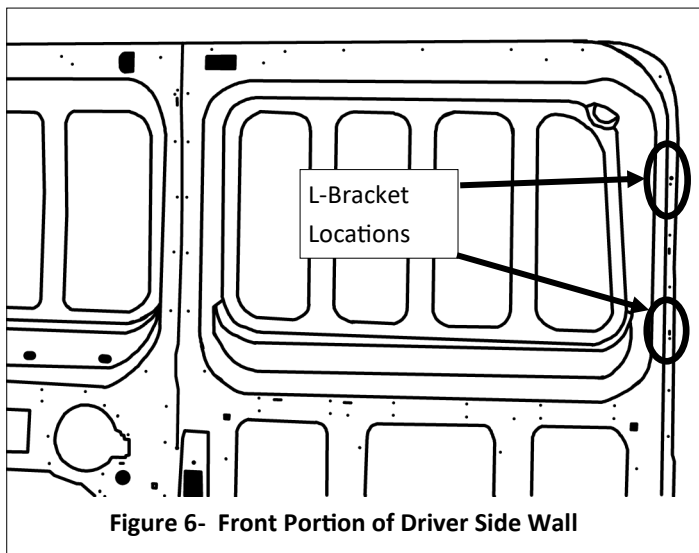

Figure 6- Front Portion of Driver Side Wall
- i. Push trim pins into the bottom left hole and the slotted hole on the top right (Figure 6).
- ii. Line up the big holes on the L-bracket with the smaller holes on the front edge of the van wall (Figure 6). Push the 10.5mm fastener through the washer and the L-bracket to hole then into place (Figure 7).